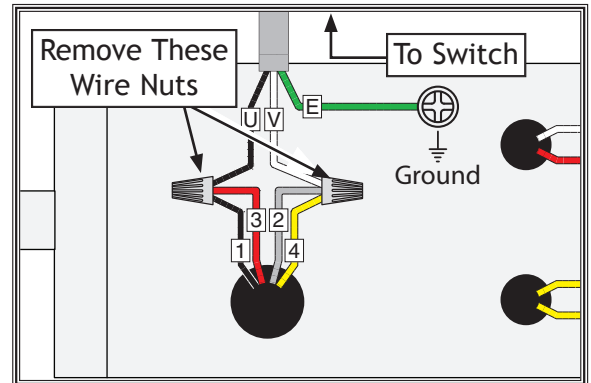

Figure 11. Inside motor junction box.
3. Open motor junction box, then remove two wire nuts indicated in **Figure 11**.